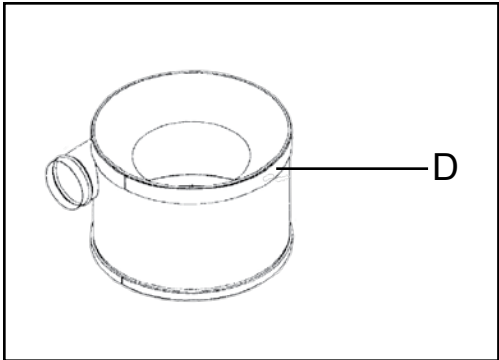

FIG. 3
Stick the Foam (D) on the top of collector. Please see figure 3.